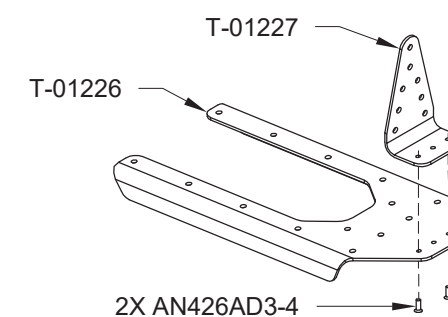

FIGURE 6: T-01227 AND T-01226 ATTACH BRACKETS
Step 6: Machine countersink the T-01226 for the rivets shown in Figure 6, then rivet the T-01226 to the T-01227.